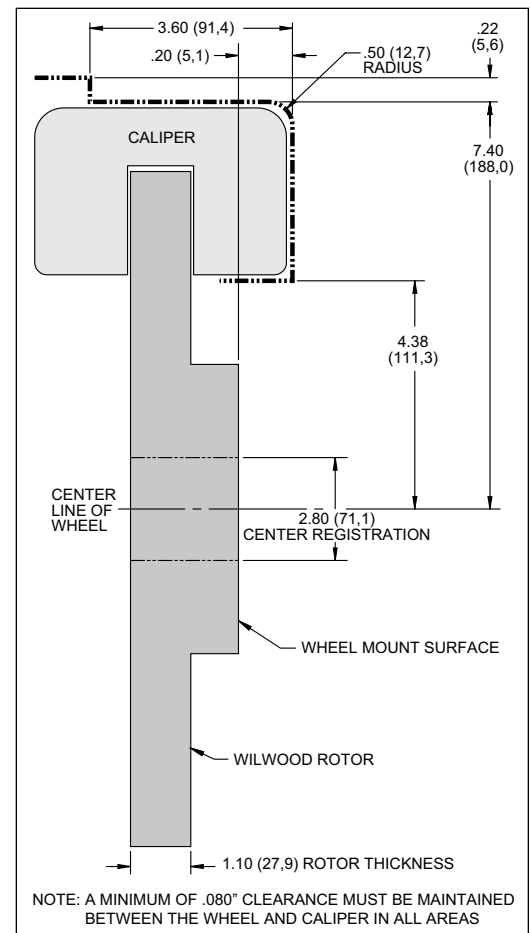

Figure 2. Wheel Clearance Diagram
- Review the wheel clearance diagram (Figure 2, page 3) to verify that there is adequate clearance with the wheels you will be using with the installation.